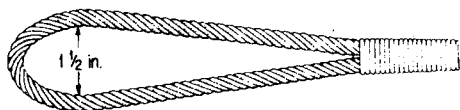

Fig. 13
**7.01** After the eye has been served as described in Part 6, form it so that it will take a permanent shape with the dimensions as shown in Fig. 13.